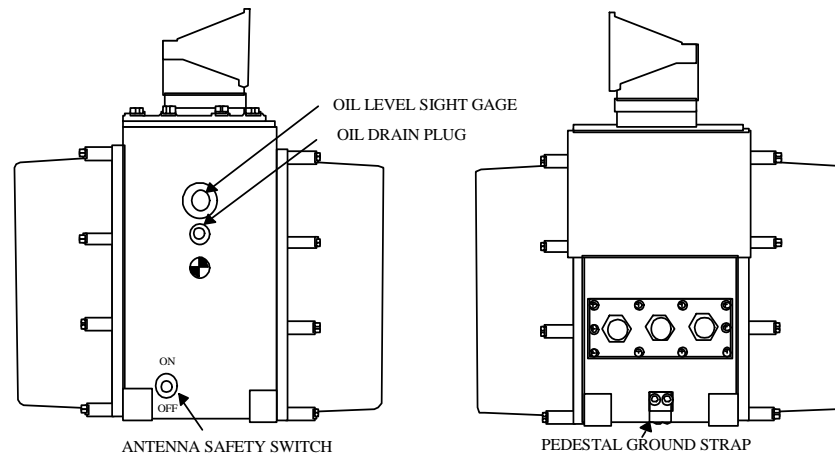

Figure: 5-1 X-Band MTR Up Oil Check.
- (1) Remove power from MTR Up and place Antenna Safety Switch to OFF.
- (2) Check the gear box assembly lubricant level and use lubricants as using the oil level sight gage, Figure: 5-1. The oil level should be seen 1/2 way Down the oil sight gage. Gear box assembly lubricant capacity is 1.8 quarts, (1700 ML.). Use Mobile Synthetic oil.